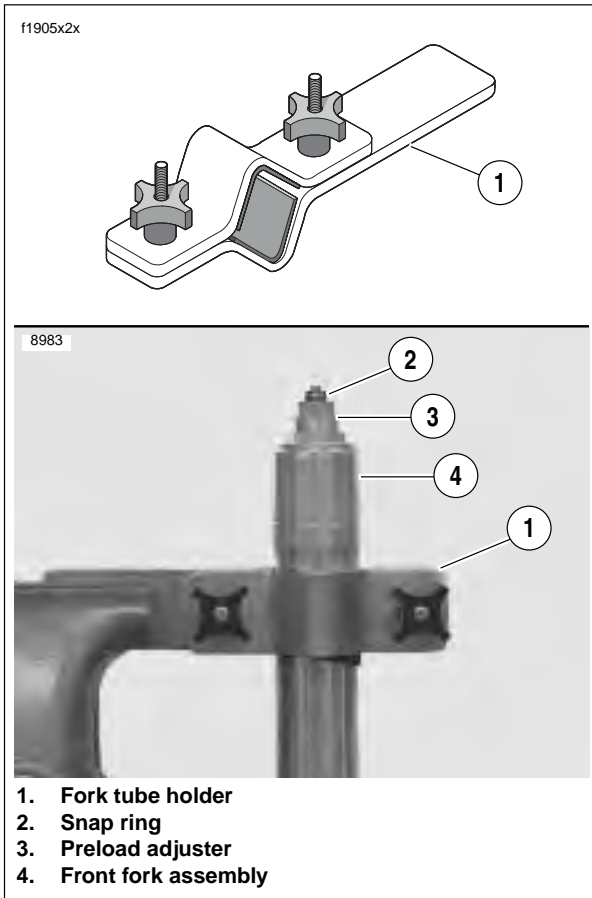

Figure 2-64. Fork Tube Holder (B-41177)
2. See Figure 2-64. Clamp the FORK TUBE HOLDER TOOL (1) (Part No. B-41177) in a vise and install the upper part of the front fork in the holding tool.
3. Remove snap ring (2).